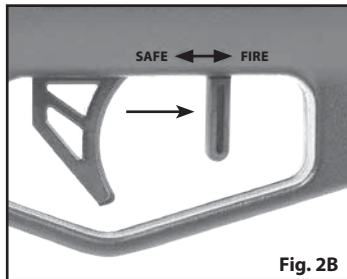

Fig. 2B
2. The Safety lever is in the FIRE position and "OFF SAFE" when the Safety lever is in the forward position "FIRE", and it cannot move forward any further (FIG. 2B).